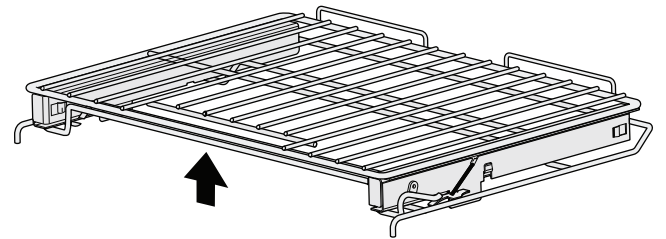

Figure 21: Extensible Glide Rack with release lever in unlocked position
2. While holding up the release lever (Figure 21), pull the Glide Rack out of the oven until the stop position is reached, use two hands if necessary.